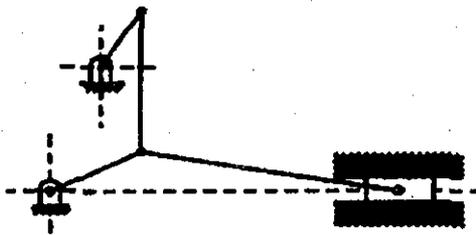
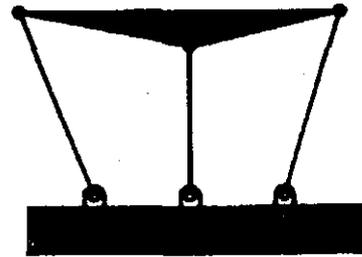

Fig.1
Fig.2
11. (a) (i) State Kutzbach criterion for the mobility of mechanism having plane motion. Identify the mobility of the following linkages shown in Fig. 1 and Fig. 2. What can you infer if the mobility of a set-up is 0 and -1? (8)